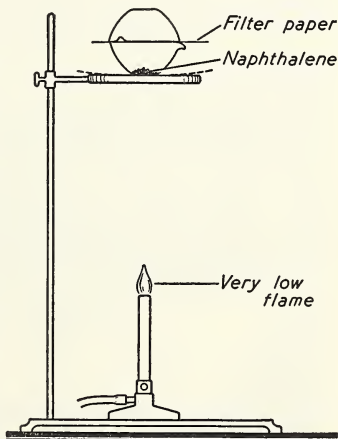

Fig. 20. The sublimation of naphthalene.
4. Place a spoonful of naphthalene in an evaporating dish (Pyrex is preferable). Cover the dish with a filter paper, and then invert another evaporating dish over the first one so that the filter paper separates the two dishes (Fig. 20). Heat the naphthalene gently until